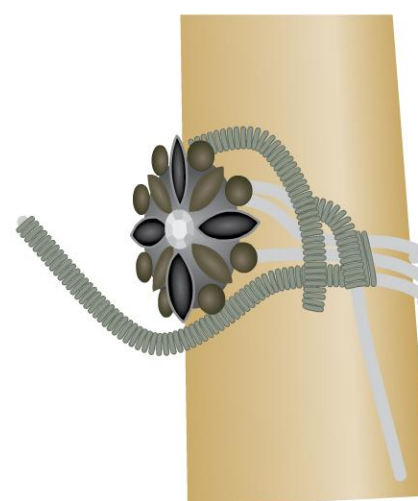

figure 5
- 9 Wrap one end of the coiled 18-gauge wire around the ring shank one time and then place the ring on the mandrel and pull the wire end tightly (Figure 5). **NOTE:** Sometimes the shank wires in the back of the ring cross when wrapping and pulling. If necessary, use nylon-jaw pliers to gently squeeze the wires starting in the center of the shank and working toward the bead, which will uncross them.